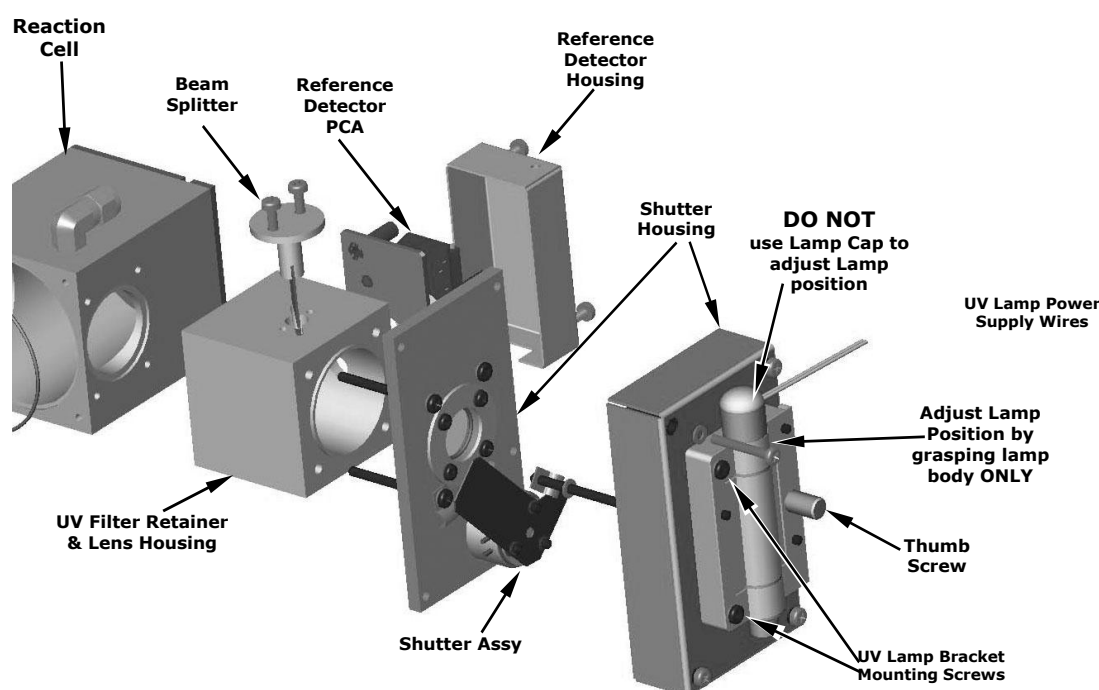

Figure 10-3: Shutter Assembly - Exploded View
2. Slightly loosen the large brass thumbscrew located on the shutter housing (see Figure 10-3) so that the lamp can be moved.
- **DO NOT** grasp the UV lamp by its cap when changing its position (see Figure 10-3). Always grasp the main body of the lamp.